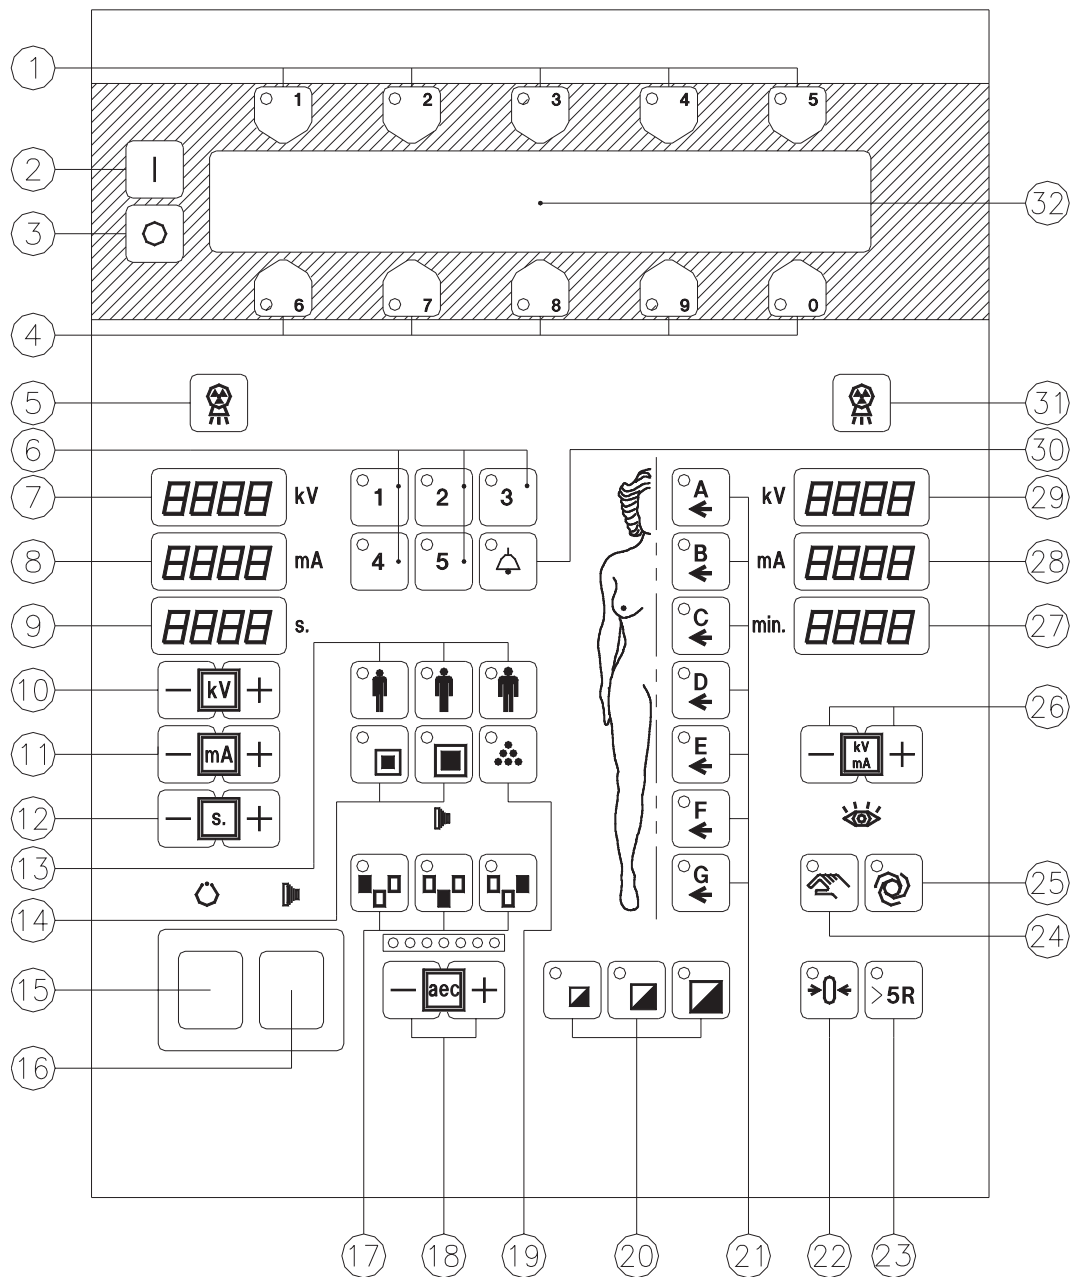

FIGURE 1
2.1 Description Figure 1
These keys (Pos.2-3 Fig.1) allow the generator to be switched ON or OFF.
Selection Keys and indicators (Pos.21 Fig.1)
The vertical body Level is selected trough the seven keys for the seven available levels. The visualisation of the selected level is made trough the luminous indicator contained in the selection keys. For each level the name of five anatomical parts and the name of five different projections will appear on the alphanumerical indicator (Pos.32 Fig.1).
Alphanumeric Luminous indicator (Pos.32 Fig.1)
Selection Keys (Pos.1 Fig.1)
Alphanumerical Luminous Indicator (Pos.32 Fig.1)
Selection Keys (Pos.4 Fig.1)
- a) Luminous alphanumerical indicator (Pos.32 Fig.1)
- b) Luminous kV-radiography indicator (Pos.7 Fig.1)
The kV-radiography value for normal person is indicated, and at the same time, the luminous indicator placed over the normal person key (Pos.13 Fig.1) is lit.
- c) Luminous mA-radiography indicator (Pos.8 Fig.1)
- d) Luminous sec-radiography indicator (Pos.9 Fig.1)
- e) Automatic Exposure Control (AEC) (Pos.17 - 18 - 20 Fig.1)
- f) Fluoroscopy parameters (Pos.22-23-24-25-26-27-28-29-31 Fig.1)
Keys (Pos.13 Fig.1)
Luminous Indicator (Pos.7 Fig.1)
Keys (Pos.14 Fig.1)
Key (Pos.30 Fig.1)
Keys (Pos.10 Fig.1)
Luminous indicator (Pos.7 Fig.1)
When the console is on the DATA procedure, the luminous indicator (Pos.7 Fig.1) shows the kV radiography value for a normal person, then it is possible to change this value in function of the patient structure. In fact in the anatomical programme two other values associated to LEAN and STRONG person are stored.
- lean and strong persons (Pos.13 Fig.1)
There is too the possibility of selecting whatever value (included on the range of the possible values) independently from the three programmed values, by operating on the increasing or decreasing value keys (Pos.10 Fig.1) to change the programmed value.
Keys (Pos.11 Fig.1)
Luminous indicator (Pos.8 Fig.1)
Fig.1). The first appearing value is the one stored on the anatomical selected programme. This value can be changed by pushing the plus minus mA keys (Pos.11 Fig.1).
The change of the value is made on the focal spot shown on the top line of the alpha-numeric indicator (Pos.32 Fig.1) and also to the lit led on the focus key (Pos.14 Fig.1).
It's also possible to change focus by the pressure of the proper key (Pos.14 Fig.1).
Keys (Pos.12 Fig.1)